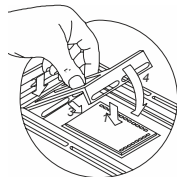

Fig. 3
6. *When samples are ready and temperature reached 47 °C - 48 °C, place the gel in the buffer and fix it with the catamaran frame *(Fig. 3, 4)*
6. Catamaran frame should be placed on the plastic backing overhang, not on the gel (Fig. 3, 4). A needle can be used to move the gel. Rinse the sample wells with TAE buffer with pipettor if air bubbles are present.